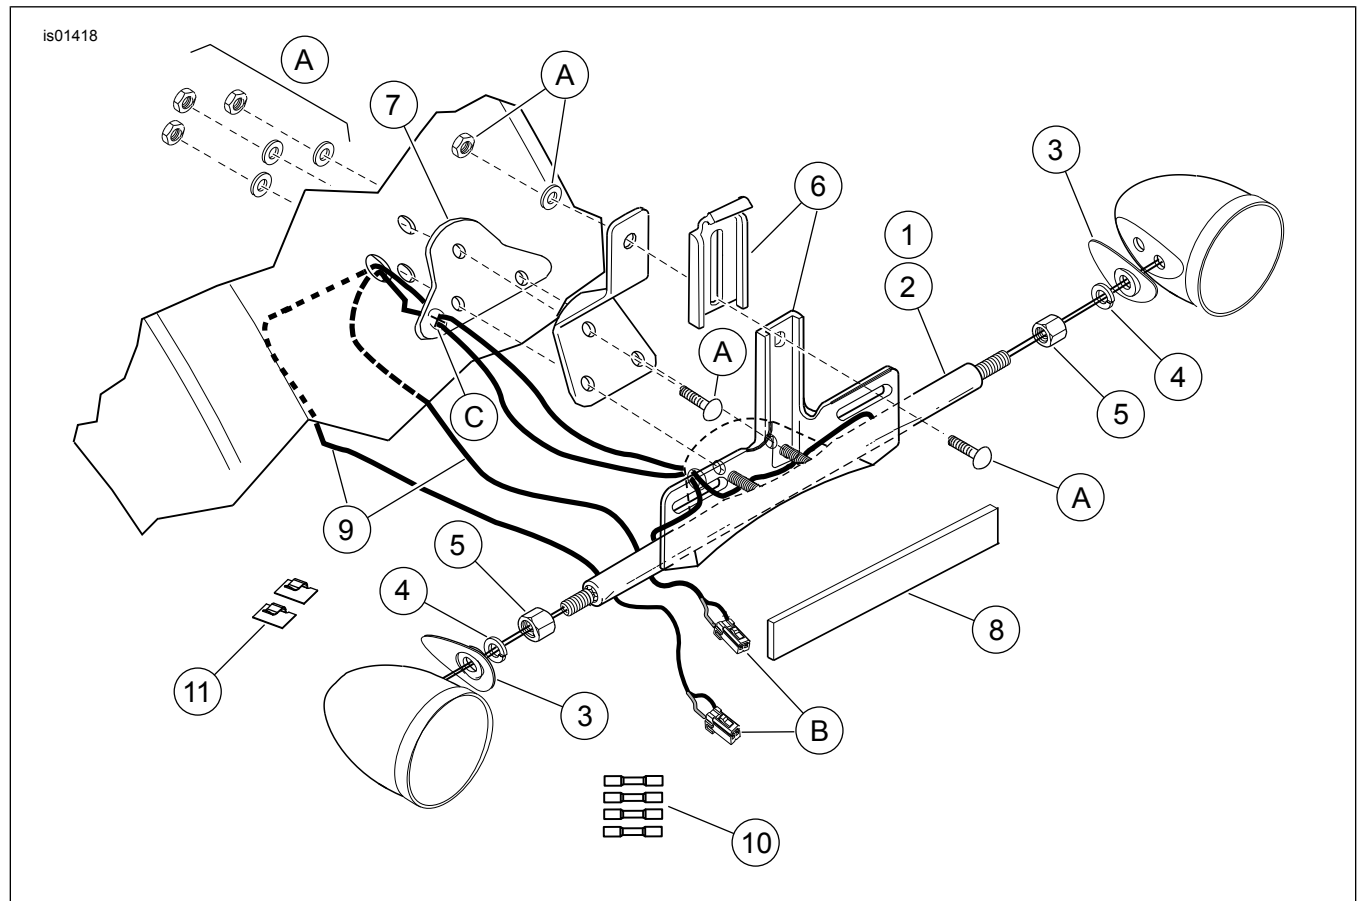

Figure 6. Service Parts: Sportster Leather Saddlebag Kits
See Figure 5, Table 1 and Figure 6, Table 2.
- See Figure 6. Remove the existing license plate bracket from the fender, noting how assembly is put together. Discard the license plate bracket, but save the remaining hardware for installation of the new license plate bracket provided in the kit.